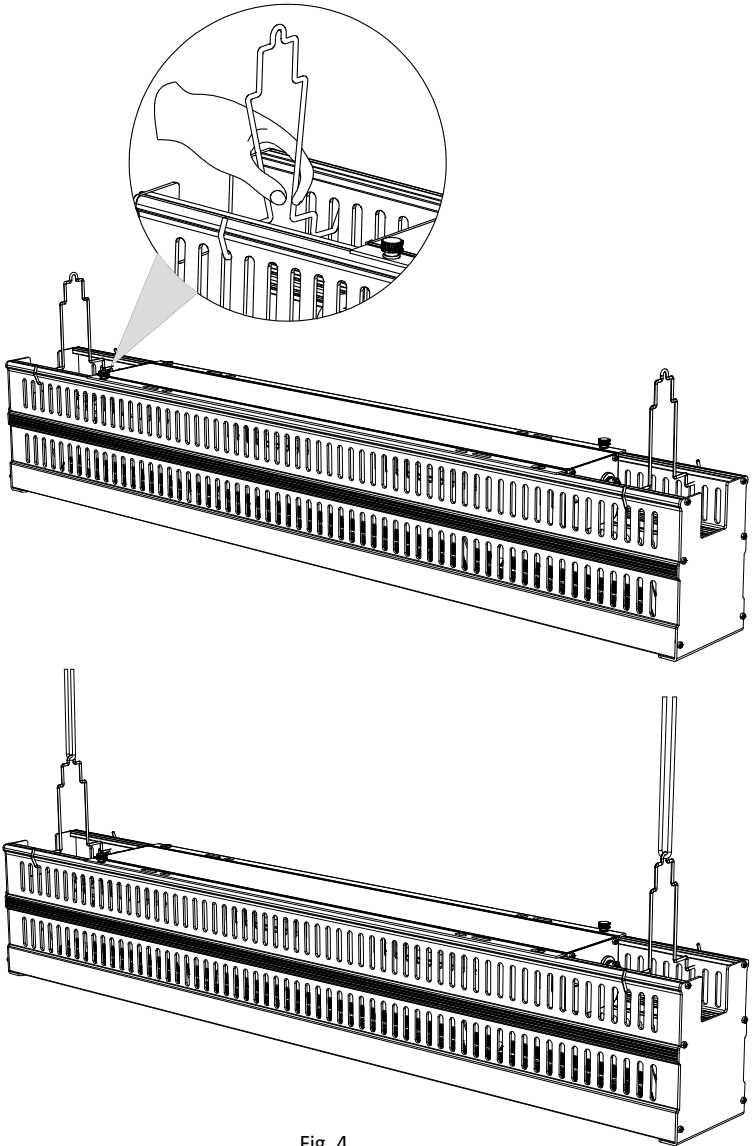

Fig. 4
1) With fixture hanger A (Part E) , as Fig. 4.